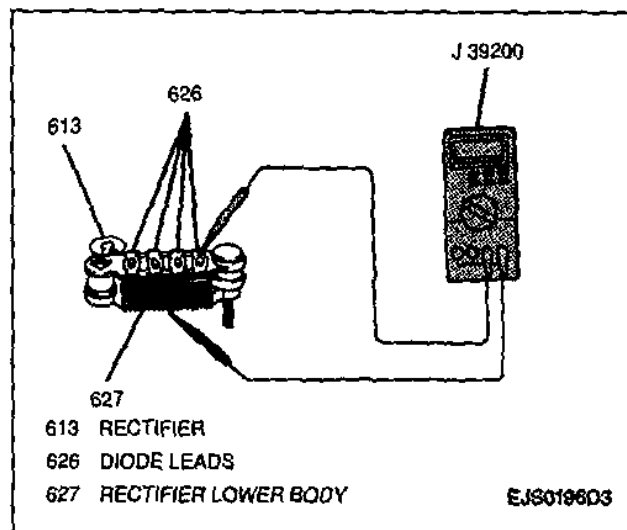

Figure 19—Measuring Rectifier Lower Body-to-Diode Lead Resistance
7. Resistance between rectifier lower body and each diode lead using the J 39200 (Figure 19). Reverse the probes and measure resistance again. If resistance is not less than 5 ohms in one measurement and greater than 5 ohms in the other measurement, replace the rectifier.